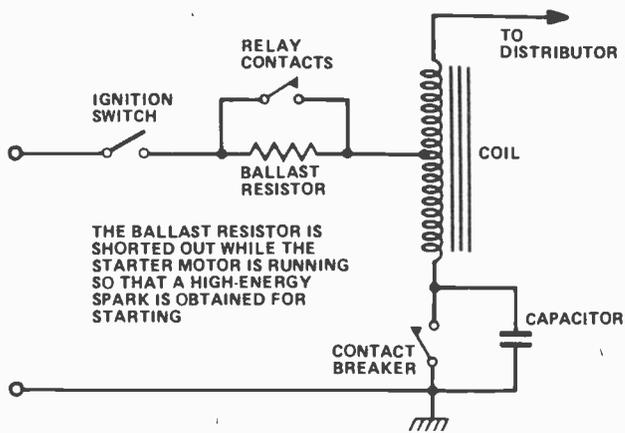

Fig 2. Simple electrical ignition
The things to be on the lookout for, at the present time, is a curious phenomenon known as the insidious Cosmimar lens switch. Now, Cosmimar lenses, at least, the ones in question (see figure 2) are very cheap; they cost about twenty bucks new. They're found, for instance, on the front of the consumer type monochrome cameras. However, they're really pretty terrible lenses for this application, having, as they do, no irises and only the most rudimentary of focussing mechanisms. They can be used in TV cameras because of the existence of ALC circuitry to adjust the exposure, however, this limits the camera to use in fairly middle of the road lighting situations.
*Fig. 2 Beware the ultra cheapo Cosmimar lens.* brutes are mechanically interchangeable with whatever lens is supplied with a camera, which is, regardless of manufacture, bound to be a better trip. Inasmuch as these cameras cost anywhere from five hundred to a thousand dollars new, it is reasonable to suspect that a manufacturer would not fit such an instrument with dime store optics. In fact, to my knowledge, nobody building industrial cameras uses these things.